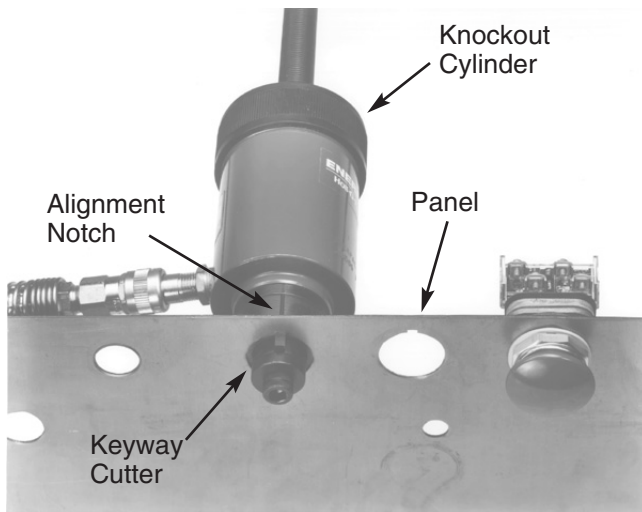

Figure 1
4. Insert the cutter tool into the 1 $\frac{1}{32}$ " panel opening until the pilot shoulder fits into the hole and the die is against the panel (Figure 1).